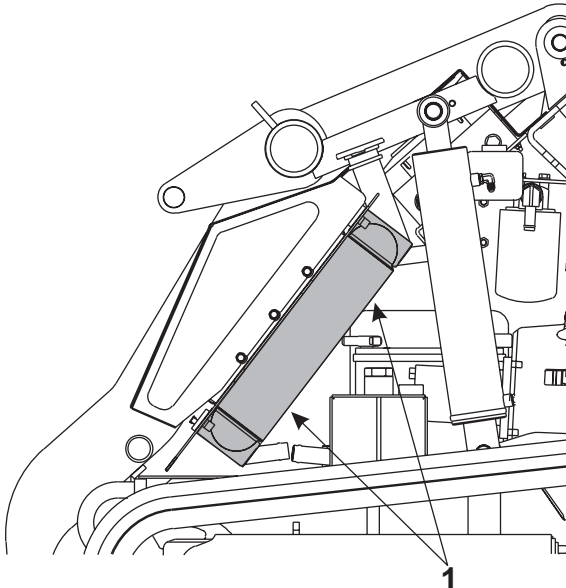

Figure 3-5 Radiator Air Flow Inspection
5. Inspect the radiator to make sure that the air flow is not blocked. The fan located on top of the unit is a suction fan, which draws air from inside the machine. Check the engine side of the radiator (Item 1, Figure 3-5) to make sure that debris has not been sucked against the radiator blocking air flow.
NOTE: Some items in Figure 3-5 have been removed for clarity.